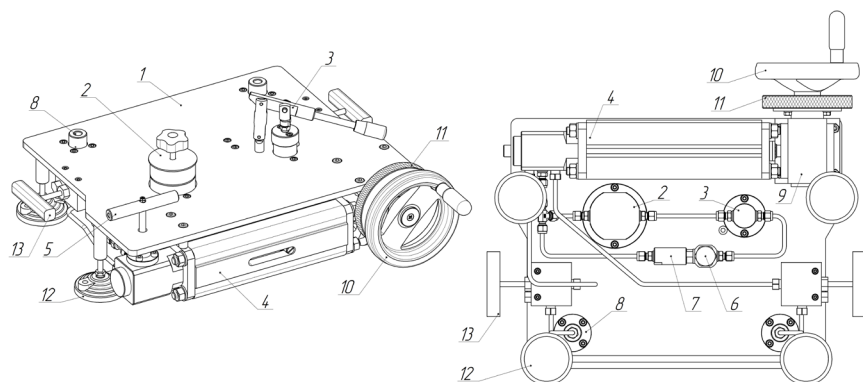
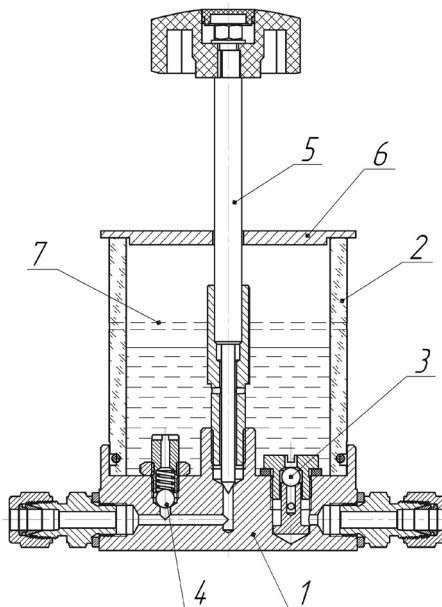
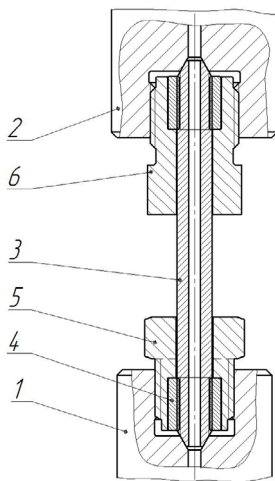

Figure 1. USD-7000
Figure 2. Bucket
Figure 5. Connecting the instrumentation device to the brace
4.1 USD-7000 appearance of is shown in Figure 1.
Base 1 (Fig. 1) of the device is made in the form of a steel plate with four adjustable feet 12. On the base there are: bucket 2 for the working fluid, manual pump 3 for filling up the system and generating a preliminary pressure, press 4 with the drive 9 to generate and smoothly adjust high pressure, filter 6 for treatment of the working fluid, check valve 7, brace 8.
4.2 The working fluid bucket consists of the bucket base 1 (Fig. 2), transparent body 2, inlet valve 3, safety valve 4, pressure relief valve needle 5, bucket cover 6. Circular path 7 indicating the upper limit of the working fluid level is made on the transparent body 2 of the bucket.
The standard and the tested instrumentation are installed on braces 8 (Fig. 1) of the pressure generator by connecting via the tube or the adapter. Figure 5 shows a diagram of connection of the instrumentation to the pressure generator brace with the tube. If the thread in the connected instrumentation 2 is the same as standard thread (9/16"–18 UNF), nut 5 shall be installed instead of adapter 6.
4.3 The pressure generator operates as follows. Using manual pump 3 (Fig. 1) the working fluid is pumped from bucket 2 through filter 6 into press 4, and then (under high pressure) into braces 8 with the instrumentation devices connected. The manual pump is needed to fill up the hydraulic system of the pressure generator and preliminary compressing of the air in the connected instrumentation devices in order to reduce its volume. Check valve 7 ensures unidirectional flow of the working fluid within the system. After the preliminary pressure (at least 18 MPa) is generated by the manual pump, shut-off valve 5 should be closed in the system. Then, by rotating the drive flywheel 10 clockwise, the required pressure is smoothly generated by press 4. It is necessary to fix drive 9 with drive brake 11 by turning it counterclockwise in order to prevent spontaneous rollback of the press 4 and to maintain the set pressure. To reduce the pressure, drive flywheel 10 of press 4 should be rotated counterclockwise, after releasing (turn clockwise) drive brake 11. To relieve the pressure remaining in the system, open shut-off valve 5 and pressure relief valve 5 (Fig. 2) located in the bucket.
6.2 Place the device on a table, level its position by rotating the adjustable feet 12 (Fig. 1). It is recommended to secure the pressure generator to the table with screws (not included in the basic delivery set).
6.4 Pressure relief valve 5 (Fig. 2) must be opened.
6.7 Open the shut-off valve 5 (Fig. 1). With smooth movements of the manual pump 3, pump the working fluid into the system until it appears in the holes of the braces 8, while continuously monitoring its level in the bucket. Install the plug (if necessary) on the brace 8, in which the working fluid appeared first and the air bubbles stopped coming out. Then make sure that the working fluid comes out without bubbles from the second brace 8. Close the shut-off valve 5.
7.3 Close the pressure relief valve 5 (Fig. 2). The valve should be closed with a low force.
7.4 Open the shut-off valve 5 (Fig. 1).
7.8 To relieve the pressure remaining in the system, open shut-off valve 5 and pressure relief valve 5 (Fig. 2) located in the bucket.
8.3.1 Open the pressure relief valve 5 (Fig. 2) and the shut-off valve 5 (Fig. 1). By rotating the drive clockwise, move the press rod 4 to the extreme forward position.
Inlet valve 3 is defective (Fig. 2)	Contact a technician
Check valve 7 is defective (Fig. 1)	Contact a technician
11.4 The warranty does not cover all types of seals, shut-off valve 5 (Fig. 1), pressure relief valve 5 (Fig. 2), filter element and defects caused by intensive use of the device.